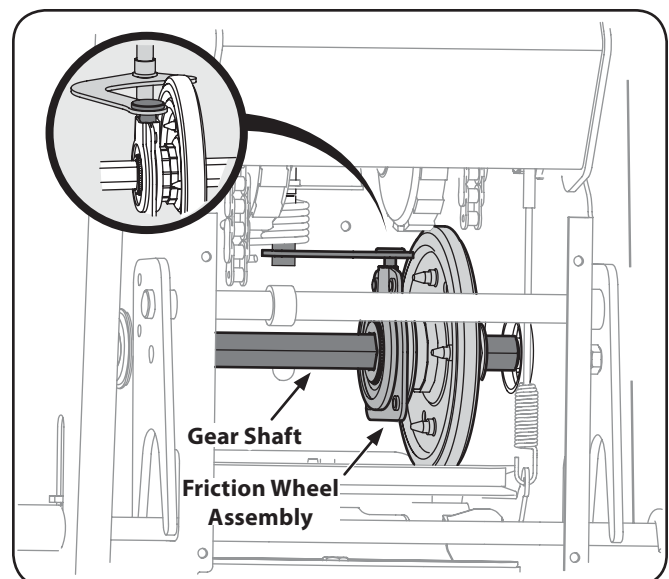

Figure 7-9
- Move the gear shaft to the right and slide the friction wheel assembly from the shaft. See Fig. 7-9.
NOTE: Make sure the shift lever pin is in place in the bearing housing. See Fig. 7-9 inset.
- Position the friction wheel assembly up onto the pin of the shift rod assembly, and slide the shaft through the assembly. See Fig. 7-9. Reassemble in reverse order.